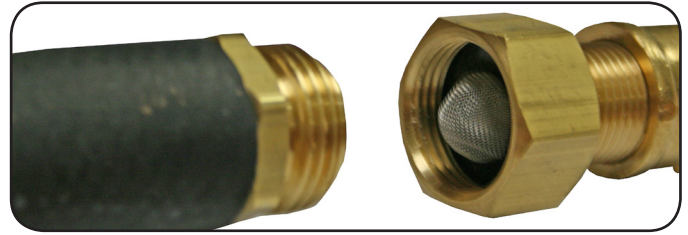

figure 1
1. Your Pressure Washer is Pre-Plumbed and Garden Hose ready. Simply run your Garden Hose from the Water Supply Outlet to the female Garden Hose fitting on the pump. 3/4" Garden Hose is recommended. (Fig. 1)